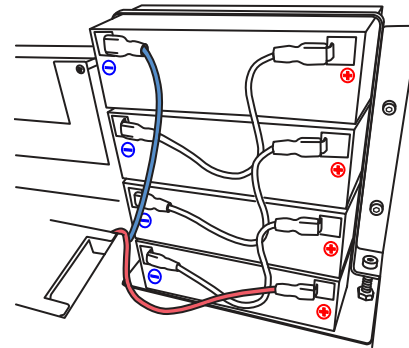

Figure 45. Wire the Batteries in Series
- Connect the negative terminal on each of the three lower batteries to the positive terminal on the battery above it (Figure 45).